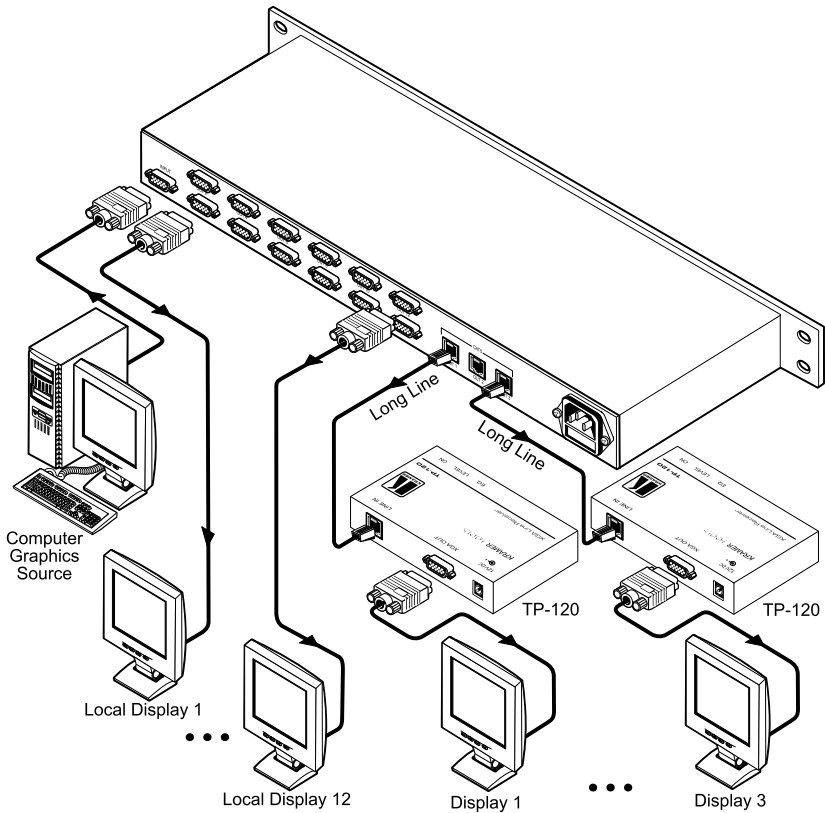

Figure 3: Connecting the VP-12N 1:12 + 3 UXGA / CAT5 Distributor
The example in Figure 3 illustrates how to output a computer graphics signal from a computer to up to 12 local monitors, as well as how to transmit it over UTP cabling to 3 **TP-120 XGA Line Receiver** units.
5. Connect the power cord³ (not illustrated in Figure 3).